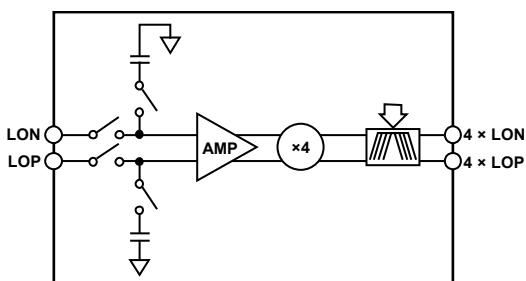

Figure 3. LO Input Path Block Diagram
The ADMV1013-EVALZ evaluation board contains a built in ADMV1013 chip. Figure 2 shows the location of this chip on the ADMV1013-EVALZ evaluation board and the block diagram of the ADMV1013. The local oscillator (LO) input path shown in Figure 3 operates from 5.4 GHz to 10.25 GHz with an LO amplitude range of -6 dBm to +6 dBm. The LO input path also has an internal quadrupler and a programmable band-pass filter. Program the LO band-pass filter from QUAD_FILTERS (Register 0x09, Bits[3:0]).